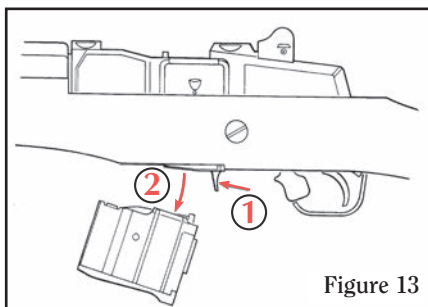

Figure 13
(STANDARD MINI-14 RANCH MODEL SHOWN IN FIGURES 13 – 21)
1. **With the rifle pointing in a safe direction, safety “ON,” remove the magazine** by pushing catch forward to release magazine, while drawing magazine down and forward (see Figure 13).